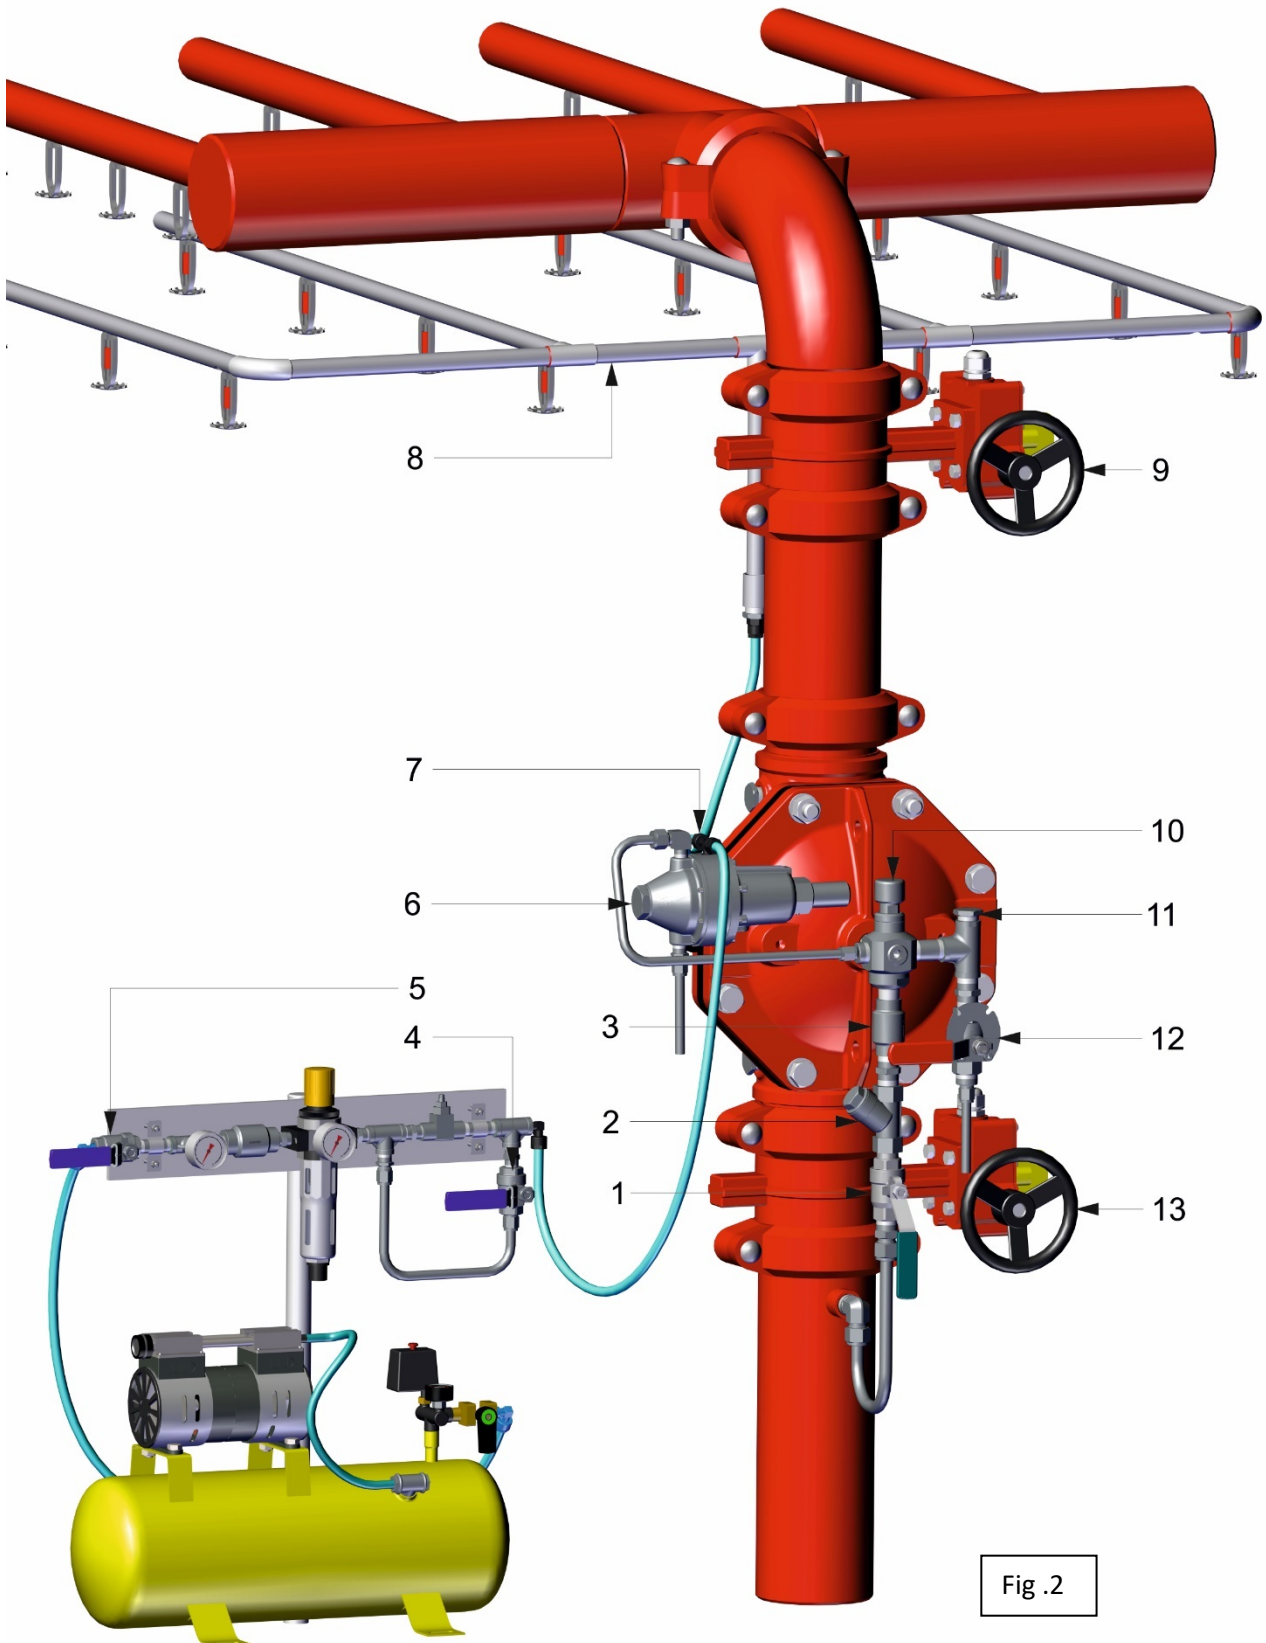

Fig .2
1. Close the Upstream Butterfly valve (12 figure 2).
2. Close trim pressure supply (5). Close the air pressure supply to the dry pilot by closing the ball valve (5 figure 2), at the entrance of the ASK – Air Supply Unit.
4. When done, open the ball valve at the ASK entrance and pressurize the dry pilot pipeline. Pressurizing the dry pilot will cause the PAV-2 (2) to move to its close state (and block the valve’s control chamber drain).
5. Open the trim pressure supply valve (5).
6. When done, the PSA (8) push-button should be pressed down until the FDV control chamber is fully pressurized.
7. Open the Upstream butterfly valve (12 fig 2). The system is in SET position.
Installation (Reference Figure 2)
(reference - figure 2)
The procedure described should be carried out after system installation completion and a comprehensive inspection. (Reference Drawing - figure 2)
Fire Situation Simulation (Reference Drawing - figure 2)
(Reference drawing - figure 2)
Resetting & placing in service (Reference Drawing - figure 2)
Maintenance (reference figure 2)